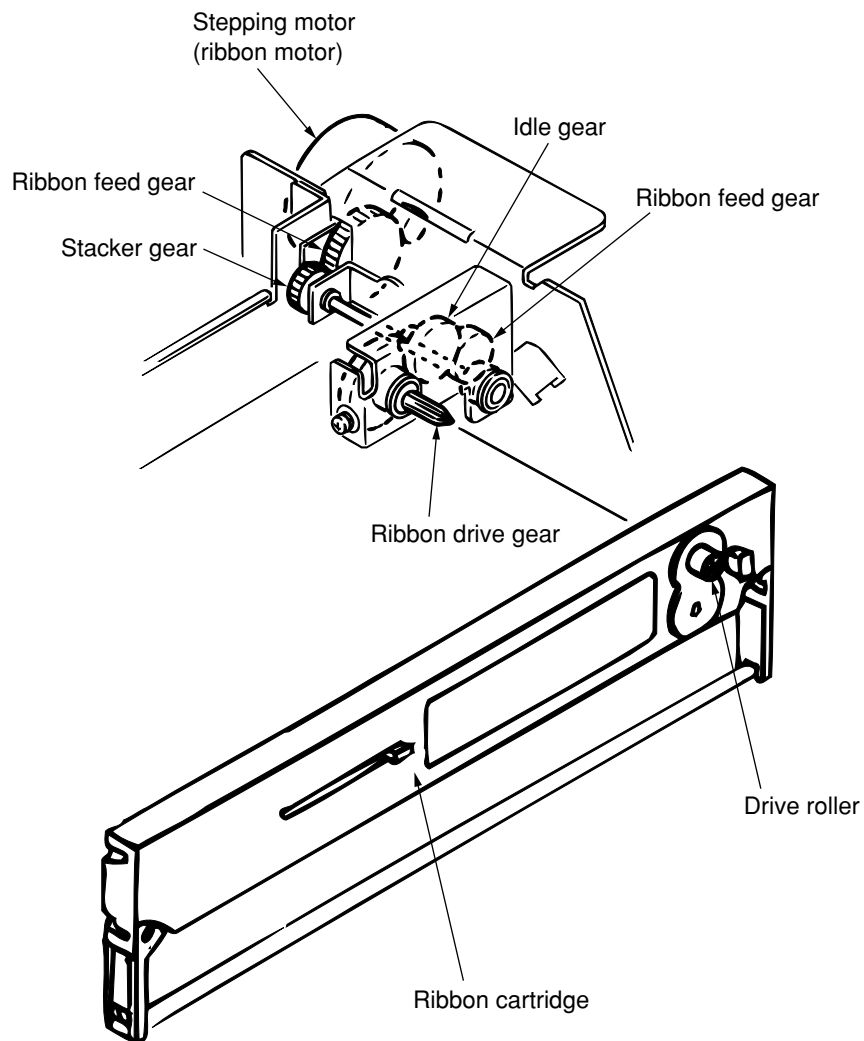

Figure 12-5. Ribbon-Feed Mechanism
12.3.3 Ribbon-Feed Mechanism (See Figure 12-5.)